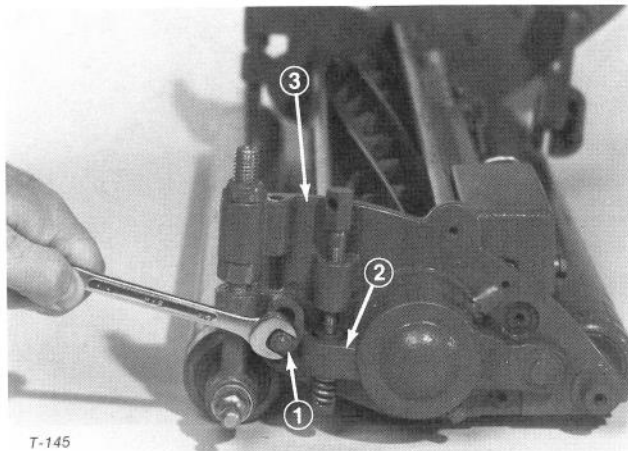

Figure 10
1. Loosen nuts securing left and right reel brackets to side plates (Fig. 10).